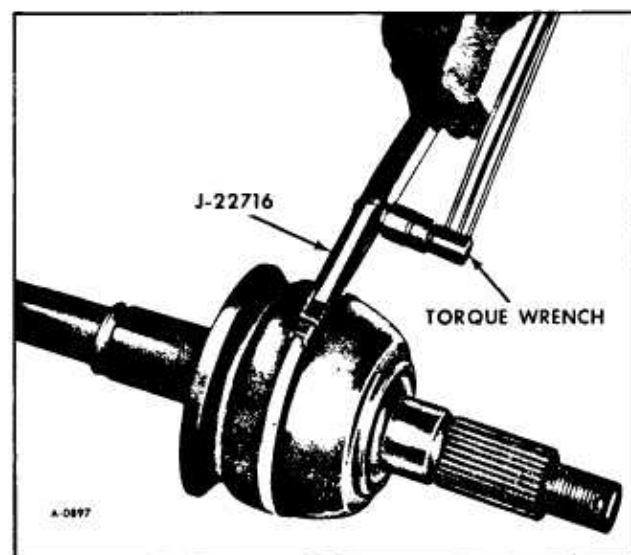
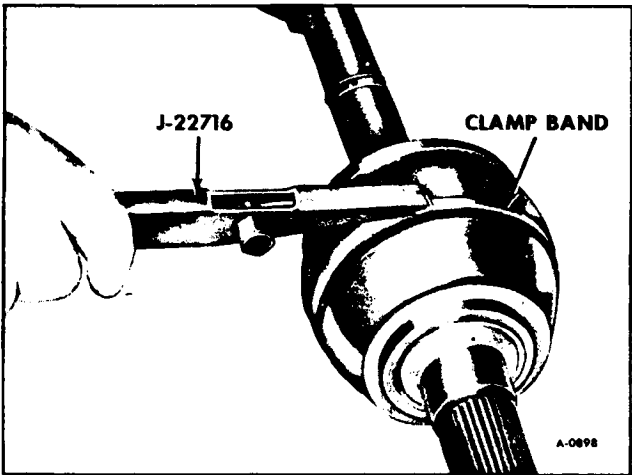

Figure 16—Tightening Band
Figure 17-Bending Band Over Lock Tangs
9. Install retaining ring into inner race with tangs protruding into relieved area. (figure 16)
f. Place a wrench on nut and draw band up tight, then torque nut to 65 in. lbs. (see figure 16) After desired torque is obtained, turn tool over to bend band over lock tangs of clamp, do not let band slip back through tool as this will decrease clamping force (refer to figure 17).